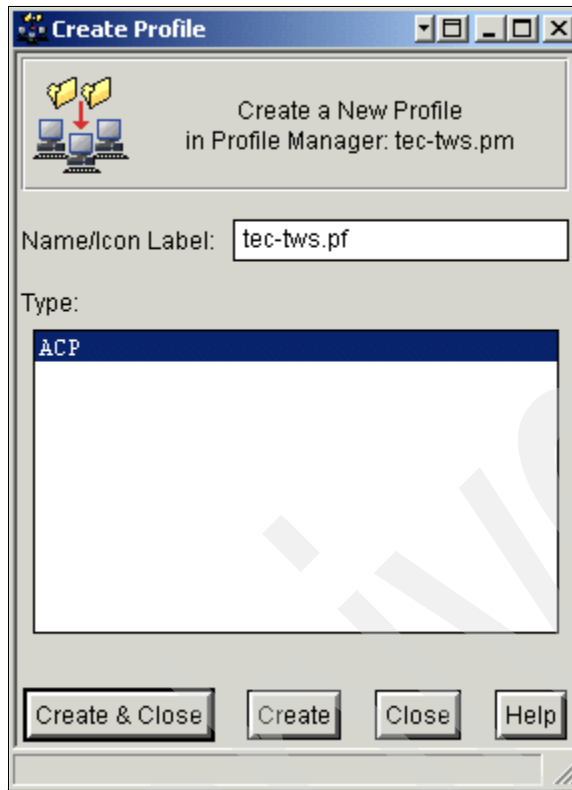

Figure 8-33 Entering new ACP profile name
12. Enter a name for the ACP profile and ensure that ACP is selected in the Type list. In our environment for this book, we used the name tec-tws.pf as shown in Figure 8-33 on page 363.